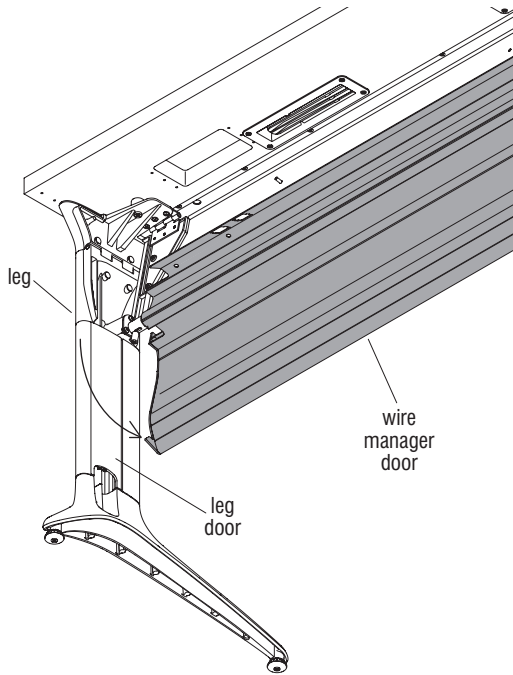

Figure 1
1. Open the wire manager door and swing it down past the leg until it clears the leg door (Figure 1).